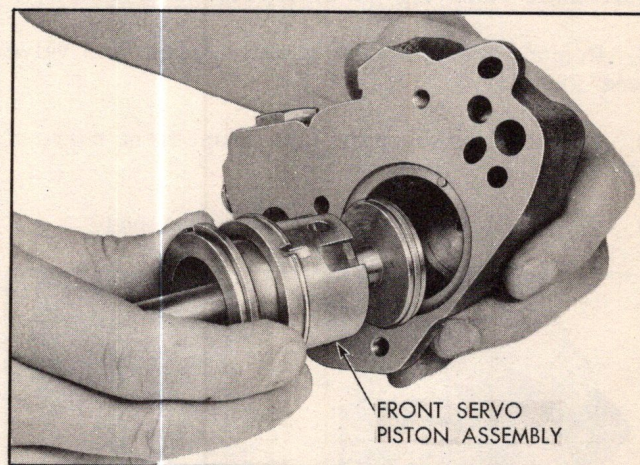

Fig. 31 Installing Front Servo Piston Assembly
6. Install servo piston assembly into servo body by carefully compressing and starting oil seal ring. Be sure groove in piston assembly locates on positioning pin (Fig. 31).